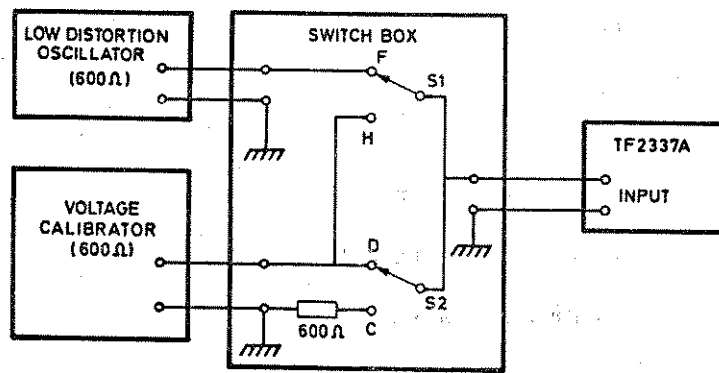

Fig. 4.3 Distortion Meter accuracy check
Switch box	See Fig. 4.3
- b) Connect the TF 2337A and test equipment as shown in Fig. 4.3.
- b) Connect the TF 2337A as shown in Fig. 4.3.